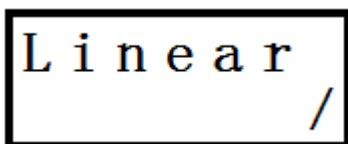

Figure38
12.2 Enter "Confirm" once, and then screen display "Linear" (Current characteristic function state) as shown in Figure 38;